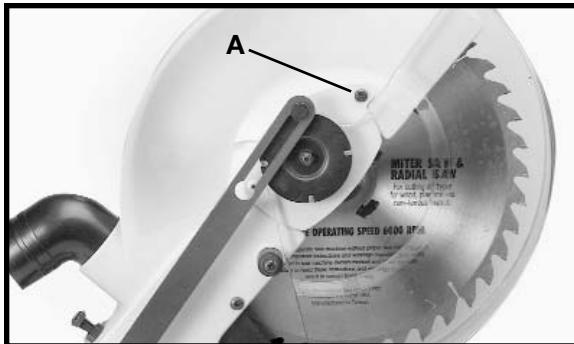
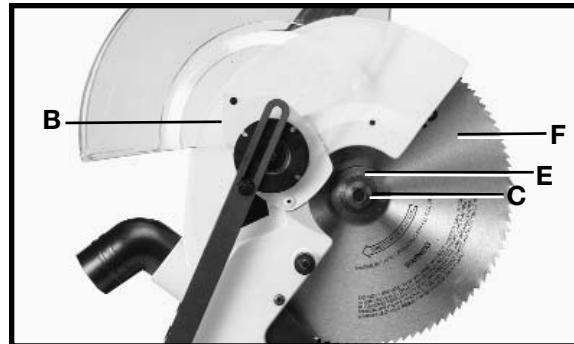
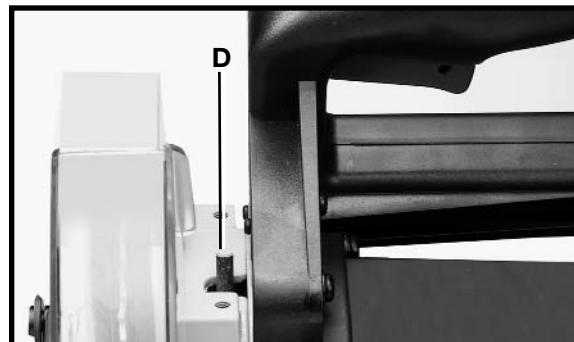

Fig. 45
Fig. 46
Fig. 47
2. Remove screw (A) Fig. 45 and rotate cover (B) to the rear (Fig. 46).
3. To remove the saw blade, PRESS IN ON ARBOR LOCK (D) Fig. 47, and use the supplied wrench to turn the arbor screw (C) Fig. 46 clockwise. Remove the arbor screw.
4. Remove outside blade flange (E) Fig. 46, and saw blade (F) from saw arbor. DO NOT REMOVE INSIDE BLADE FLANGE.
BLADE ARE POINTING DOWN AT THE FRONT. Re-attach outside blade flange (E) Fig. 46, and arbor screw (C) by turning it counterclockwise. At the same time, PRESS IN ON THE ARBOR LOCK TO KEEP BLADE FROM TURNING. (D) Fig. 47.